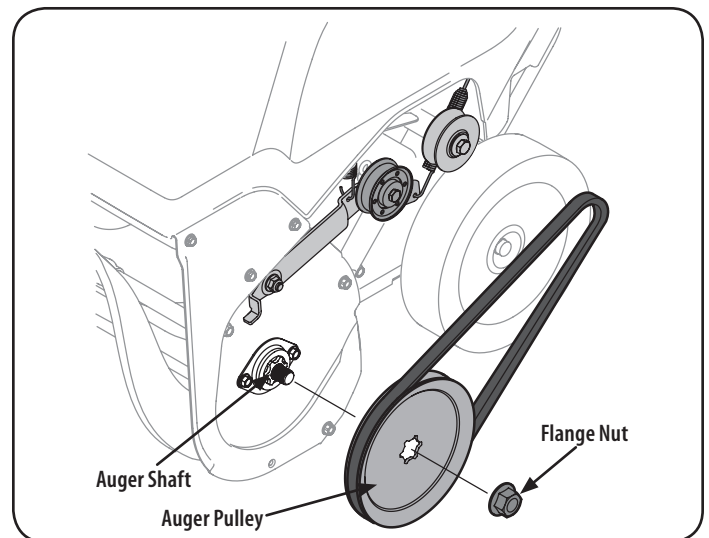

Figure 4
5. Remove the flange nut that secures the auger pulley to the auger shaft. See Figure 4.